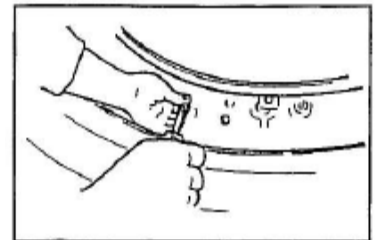

Figure 1
4. Remove the valve core; deflate tires completely. (See Fig.1)